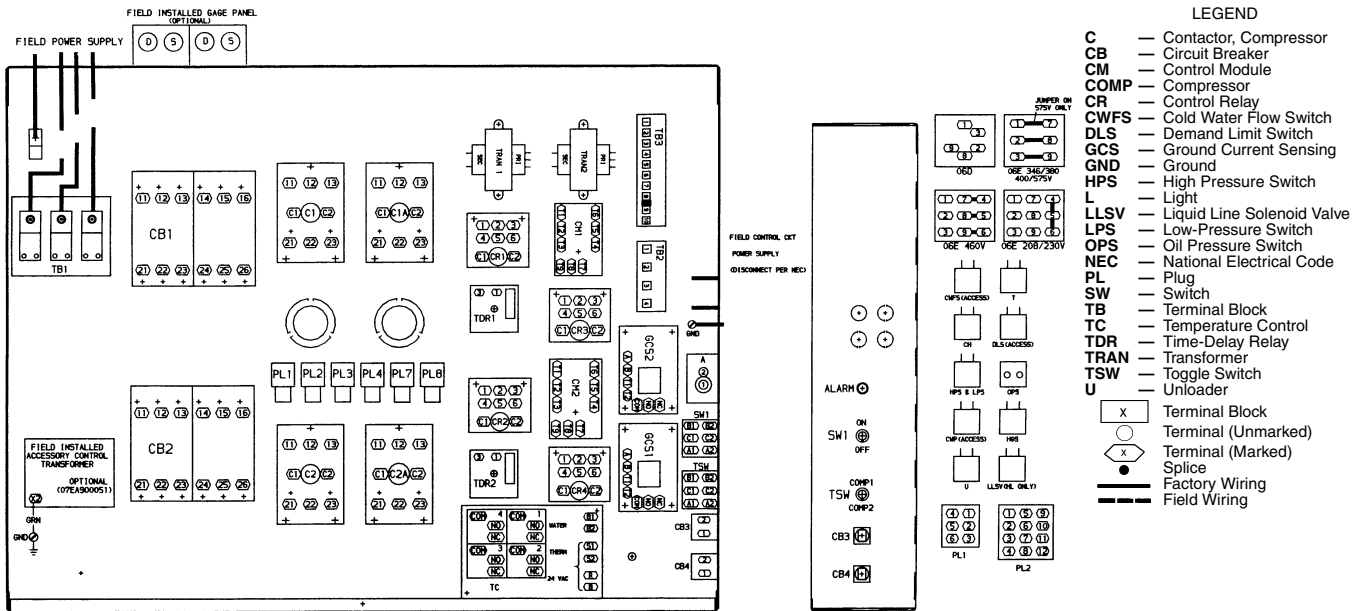

Fig. 5 — 30HK,HL Control Box Component Arrangement (Temperature Controller)
1. Mount compressor ground current sensing boards (Table 1, Item 1) in control box. See Fig. 5 for locations in control box. Use 4 screws provided (Table 1, Item 5) to mount each board. Mounting holes are pre-drilled.
3. Install 6-in. (152 mm) wire (Table 1, Item 4) with the piggyback terminal on GCS1-A. The other end of the wire should be connected on GCS1-COM. Install the other 6-in. (152 mm) wire (Table 1, Item 4) with the piggyback terminal on GCS2-A. The other end of the wire should be connected on GCS2-COM. See Fig. 5 for locations in control box.